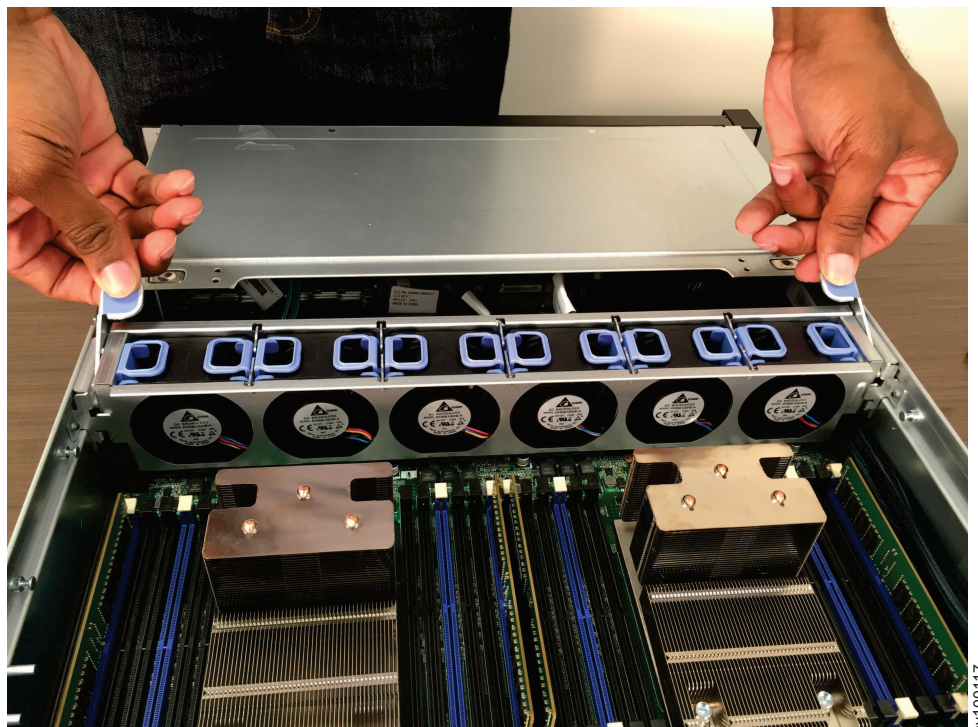

Figure 183. Pressing the fan bracket into position
3. Press the bracket into position until the fan-bracket release levers click into place, as shown in Figure 183 on page 224.